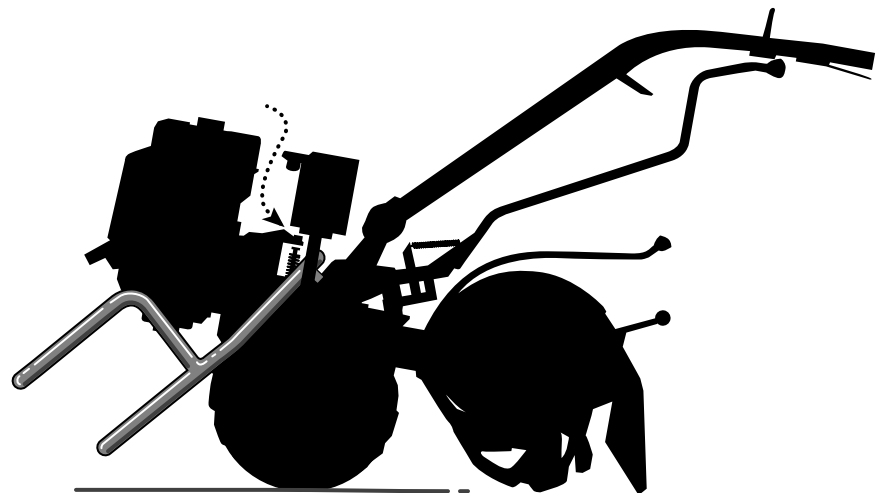

Fig. 11
- c.) Lower the front of the wrap-around almost to the floor, as shown in Fig. 11. Now, slide the small curved portion (with L-shaped legs) between the bottom of the battery bracket and the top of the engine mount.